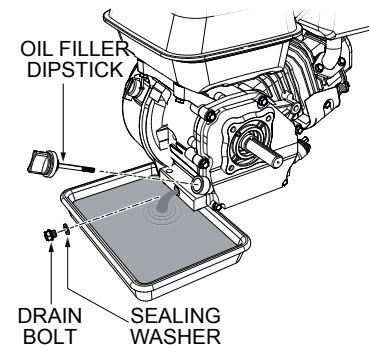

Figure 32. Draining Engine Oil
1. Drain the engine oil when the oil is warm as shown in Figure 32.